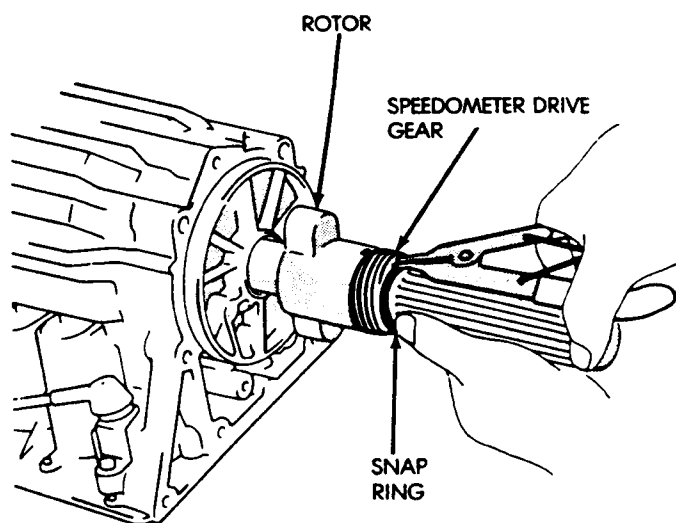
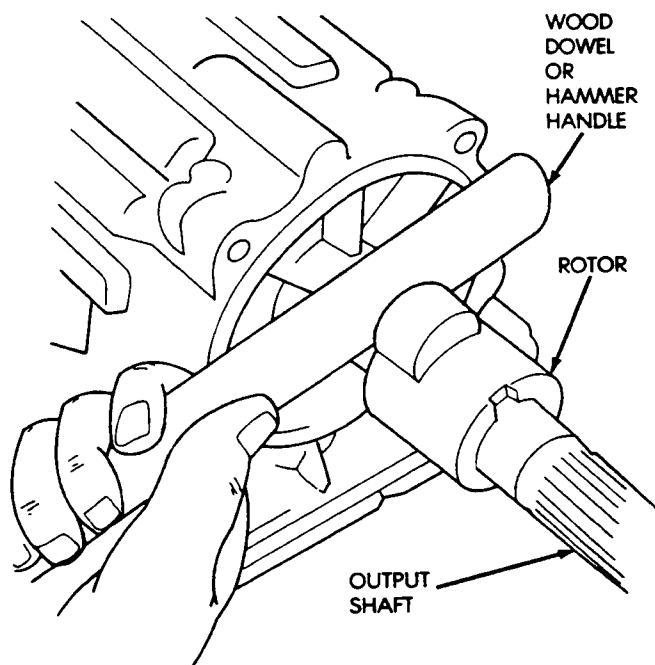

Fig. 42 Removing/Installation Speedometer Drive Gear
Fig. 43 Removing Speed Sensor Rotor
- (1) Raise vehicle.
- (2) Remove components necessary to gain access to rotor and drive gear (e.g. propeller shaft, transfer case, crossmember, shift linkage).
- (3) Disconnect speedometer cable and/or speed sensor.
- (4) Remove extension or adaptor housing.
- (5) Remove speedometer drive gear snap ring (Fig. 42).
- (6) Remove the speedometer drive gear and spacer (if equipped).
- (7) Remove rotor by carefully prying it off output shaft with wood dowel or hammer handle (Fig. 43).
- (8) Clean sealing surfaces of transmission case and extension/adaptor housing.
(1) Install rotor, spacer (if equipped) and drive gear on output shaft. Then install drive gear snap ring (Fig. 42).
(2) Apply bead of RTV sealer, to transmission case sealing surface and install extension/adaptor housing on case.
(3) Tighten extension/adaptor housing bolts to 34 N·m (25 ft-lbs) torque.
(4) Install components removed to gain access to rotor and drive gear.